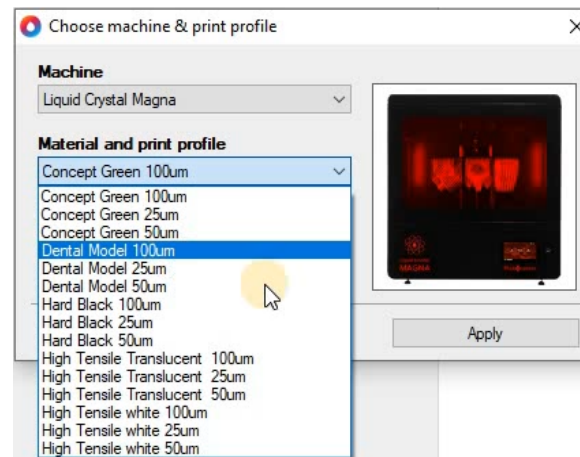

Figure 6
- Select 'Liquid Crystal Magna' and 'Dental Model 100um' (figure 6).